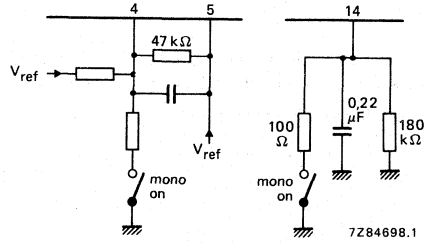

Fig. 3 (a) At pin 4;  $-V_{4.5} > 300$  mV; (b) at pin 14.
4. External mono 'ON' switch; see Fig. 3.